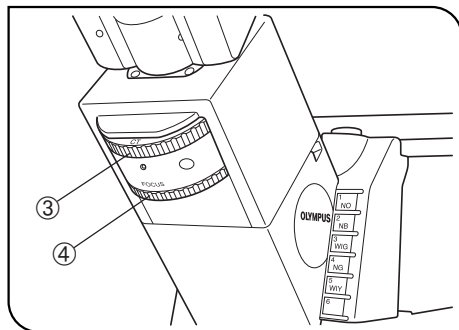

Fig. 6
2. Remove the DIC prism slider ①.
3. Push in the polarizer engagement knob ② to engage the polarizer in the light path.
5. When the U-BI90CT binocular observation tube is used, rotate the CT turret ③ to position "CT" to engage the CT lens in the light path. (Fig. 6) When the U-BI90 or U-TBI90 binocular observation tube or U-TR30H trinocular observation tube is used, remove an eyepiece and attach the U-CT30 centering telescope.
6. Rotate the focusing ring ④ (or, with the centering telescope, rotate the knurled section) to bring the objective's exit pupil into focus. (Fig. 6)